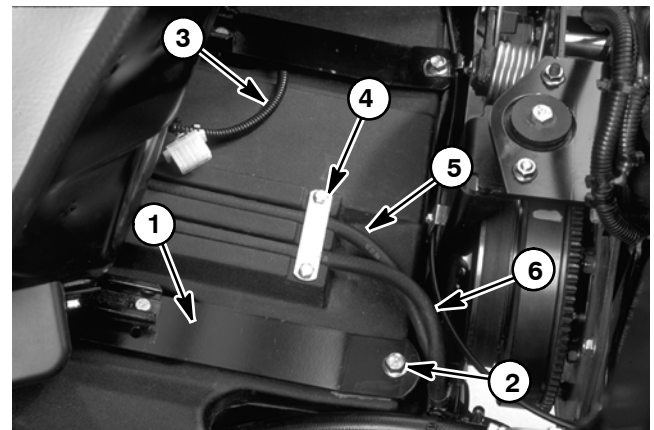

Figure 14
3. Remove seat and seat support straps from the frame. Note location of spacers under front of seat support straps. Disconnect seat switch from the electrical harness (Fig. 14).
4. Remove fuel hose strap and both fuel hoses from the fuel tank. Pull tank from the machine (Fig. 14).